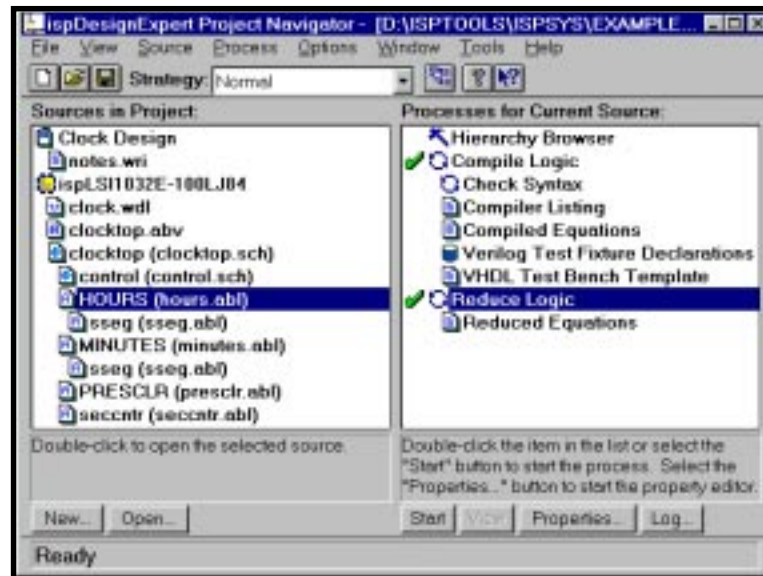

Figure 3-60. Project Navigator after ABEL-HDL Compiling
10. In the Sources in Project field of the Project Navigator, select the source (\*.abl). In Processes for Current Source, double-click on Reduce Logic. The Compiler will take care of running the Compile Logic process before it executes the Reduce Logic process. When the process is finished, your Navigator should match the one in Figure 3-60.